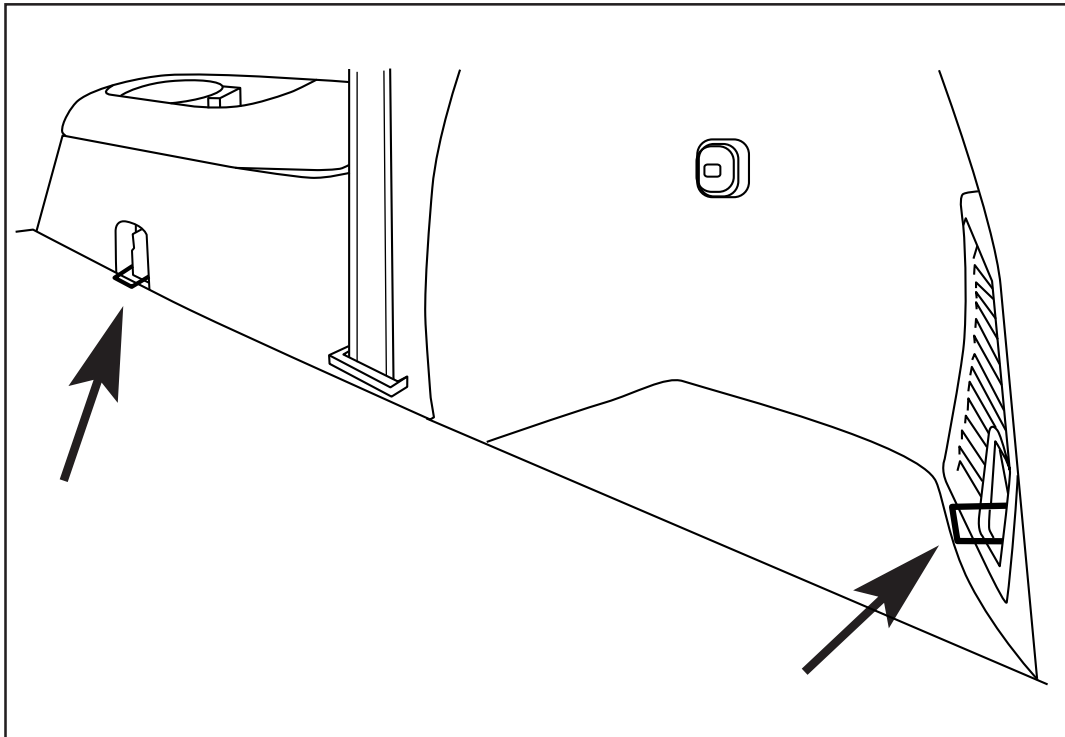

Fig. 1
2. Locate the two mounting locations on the passenger side of the vehicle as indicated by the arrows (Fig. 1).